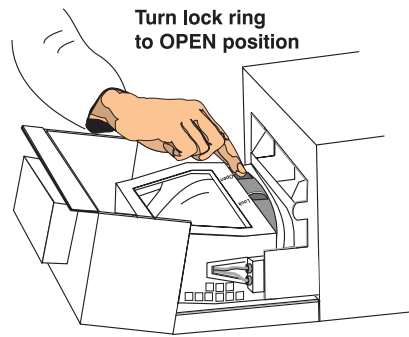

Figure 4.3.
- (a) Turn the lock ring to the OPEN position. (Figure 4.3.)